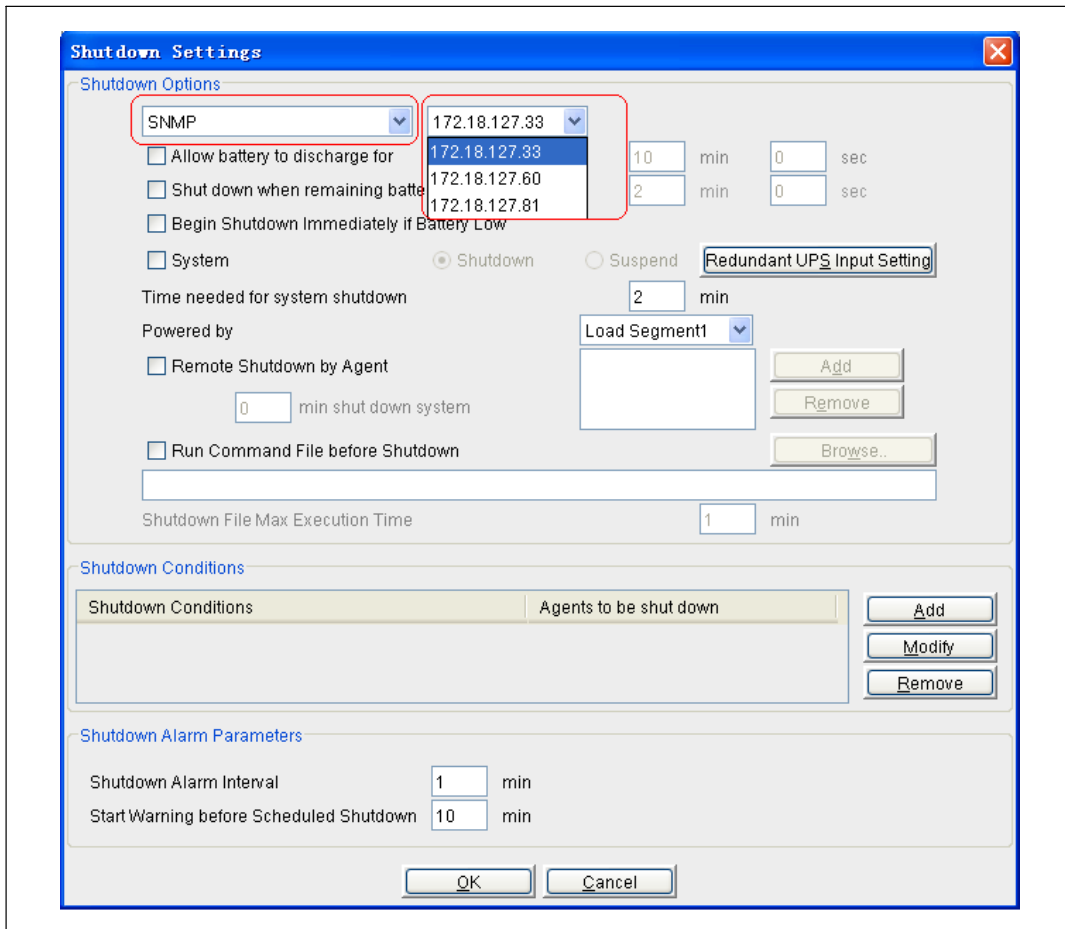

Figure 66. SNMP List
- 1 Select **SNMP** from the serial ports list (see Figure 66).